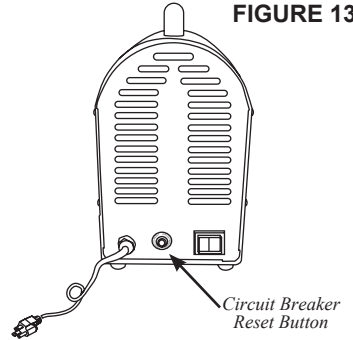

FIGURE 13
3. Press the Circuit Breaker Reset Button (FIGURE 13).